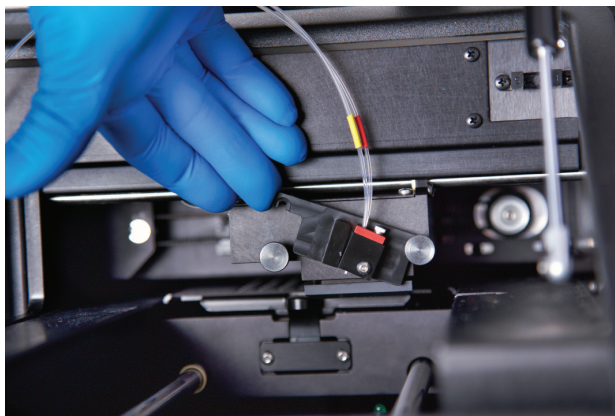

Figure 97. Replace the Injector Tip Holder.
8. Return the Injector Tip Holder to the Optical Head and tighten the hand screws. Position the holder just above the front pins on the Optical Head. Push the holder toward the right to lock the holder securely to the right pin of the Optical Head. Then push down and lock the holder on the left pin (Figure 97).
9. Return the Injector Tip Holder to the Optical Head and tighten the hand screws. Position the holder just above the front pins on the Optical Head. Push the holder toward the right to lock the holder securely to the right pin of the Optical Head. Then push down and lock the holder on the left pin (Figure 97).